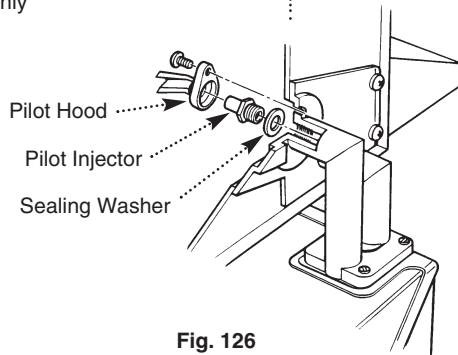

Fig. 126
10.12 Pilot Burner Injector (Fig. 126)